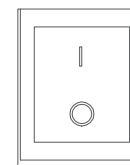

Figure 6.8
- ▶ When charging, turn on the power switch on the battery box of the electric wheelchair, and turn off the power button of the controller. Note: The power switch on the battery box is off when it leaves the factory. Be sure to turn on this power switch when charging. "I" is the on state, and "O" is the off state, as shown in Figure 6.8.
- ▶ Turn on the power switch on the battery box and press "I" to make it in a normal working state, as shown in Figure 6.8.